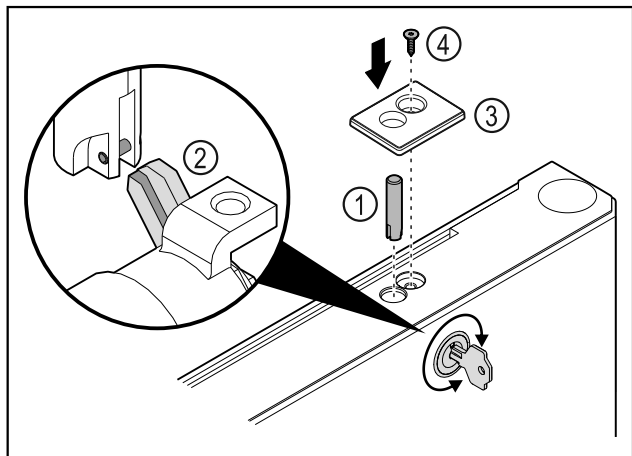

Fig. 36
- Put in the lock bolt Fig. 36 (1).
- Turn the lock slightly so that the lock bolt Fig. 36 (2) engages in the slot of the lock.
- Put in the cover Fig. 36 (3).
- Insert the screw Fig. 36 (4).